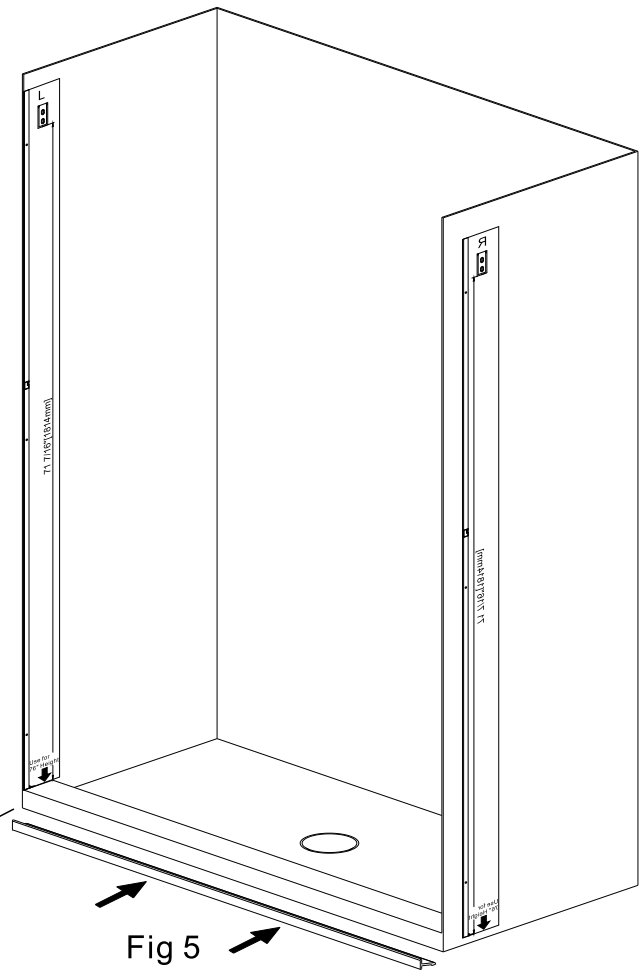

Fig 5
1. Tear off the tape from the **Bottom Rail [03]**. (Fig 4) Place the **Bottom Rail [03]** onto the threshold by referring to the position of drawings on the bottom of templates. (Fig 5)